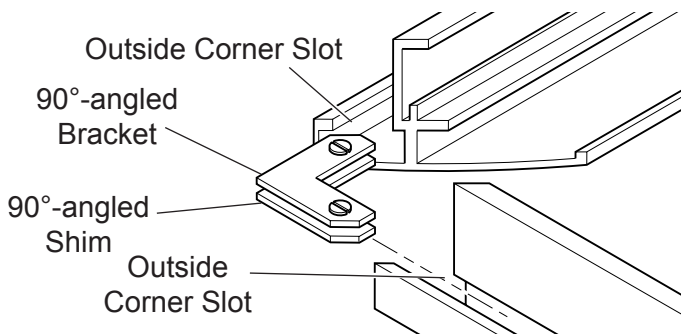

Figure 10 - Securing Corners Together
3. Slide one (1) 90°-angled bracket (with attached screws) and one (1) 90°-angled shim in the outside corner slot where the top and side trims meet. See Figure 10.